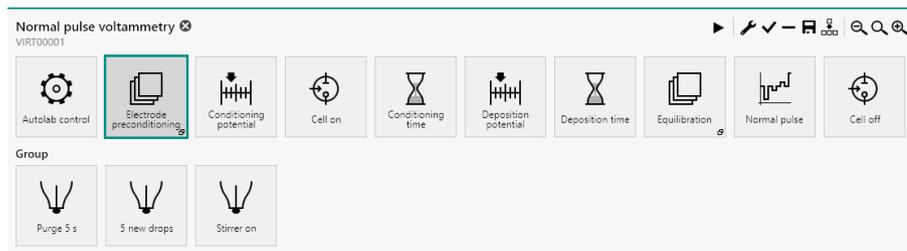

Figure 619 The Electrode preconditioning group
- Electrode preconditioning:** this command group is used to create new mercury drops at the beginning of the procedure. The commands in this group are used to purge the solution for the specified duration, create the specified number of new drops and switch the stirrer on (see Figure 619, page 520).